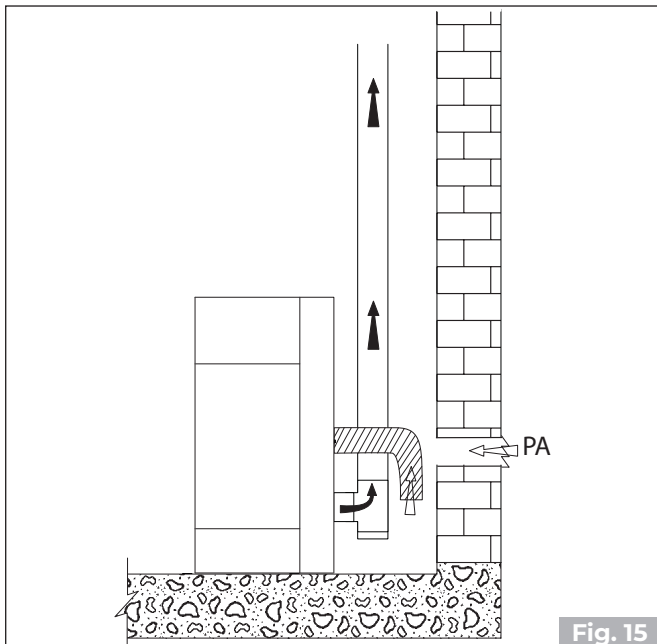
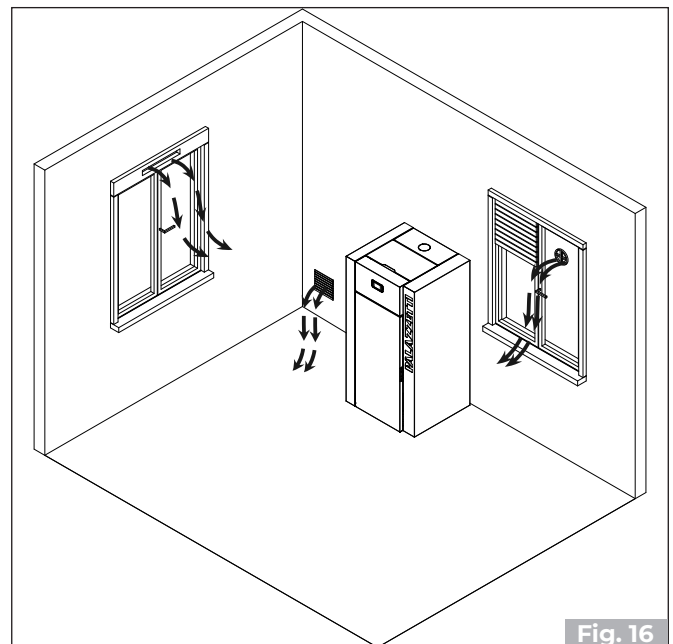

Fig. 15
Fig. 16
- it can come from the installation room or from suitable adjacent rooms (**Fig. 15**).
Create the air intake on the wall (**Fig. 15 and Fig. 16 - PA = Air Intake**), and leave the appliance to withdraw the room air, making sure to connect the section of corrugated pipe on the air inlet pipe, if supplied, fixing it with the strap and folding it slightly downwards to prevent any resonance effects.